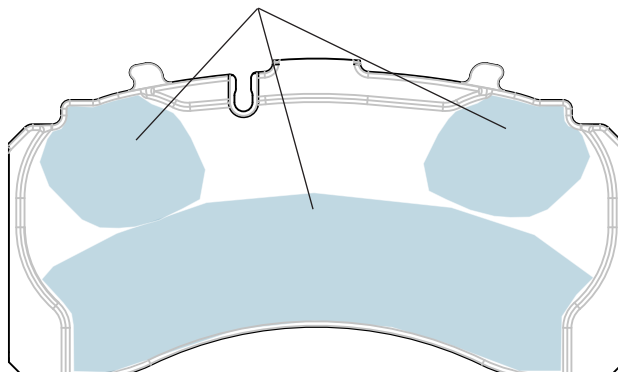

Figure 22 – Pad and Rotor Dimensions
See Figure 22 for initial brake pad and rotor dimensions, as well as minimum acceptable dimensions.
4.3.1 See Figure 22. If the thickness of the friction material—dimension “C”—is less than 0.080 in. (2 mm), the pads must be replaced.
Bendix® ADB22X®, ADB22X®-V, and ADB22X®-LT air disc brakes use 0.35 in. (9 mm) backing plates, so dimension “D” (the combined pad and backing plate thickness) must be a minimum of 0.43 in. (11 mm). The minimum thickness of the ADB22X-LT backing plate is 7 mm (.276 in) where Bendix requires the measurements be taken from (See Figure 22). Pad replacement customers are replacing with BX276.
4.4.1 Measure the thickness of the brake rotor at the thinnest point (Dimension “B” in Figure 22). Avoid measuring near the edge of the rotor as minor burrs may result in an inaccurate measurement. **For Bendix brand rotors, replace the rotor when the minimum thickness of 1.46 in. (37 mm) is reached.** For other brands of rotors, refer to the rotor manufacturer’s guidelines.